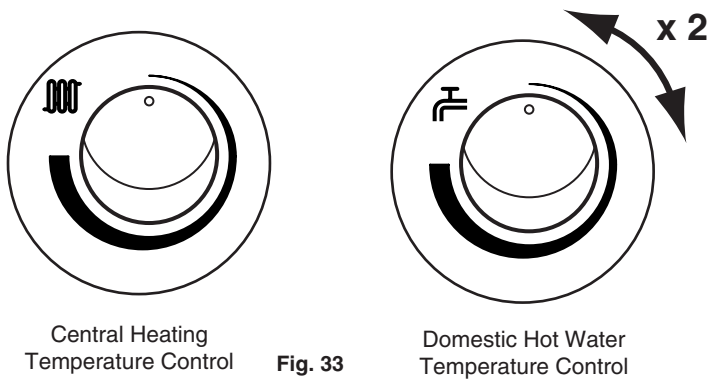

Fig. 33
3. Ensure that the integral timer and any external controls are calling for heat, and the selector switch is in the central heating and hot water position (SF). The current boiler temperature is shown on the display.
5. Turn both temperature control knobs fully anticlockwise, then quickly turn the DHW temperature knob 1/4 clockwise twice and back fully anticlockwise (Fig. 33).